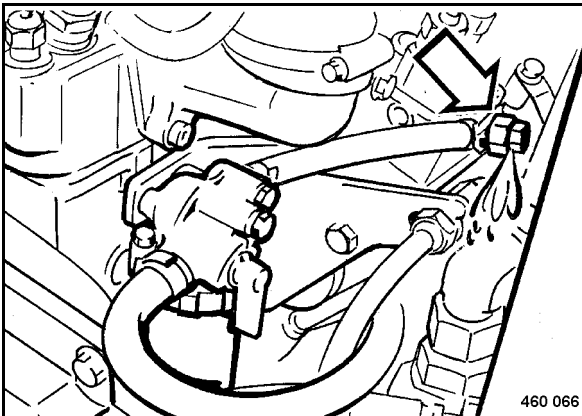

Fig. 105
- Open the bleeding screw (Fig. 105) on the injection pump for a few turns.